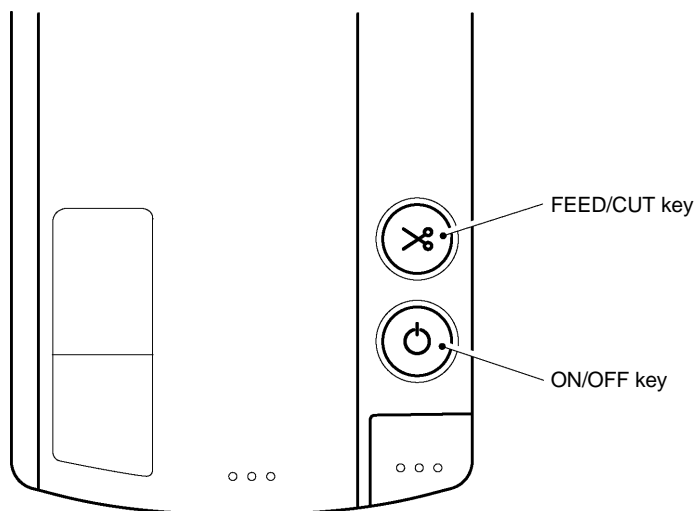

Fig. 1.1-2 Key Layout
(1) Number of keys 2 (ON/OFF () and FEED/CUT () keys)
(2) Key layout See Fig. 1.1-2.